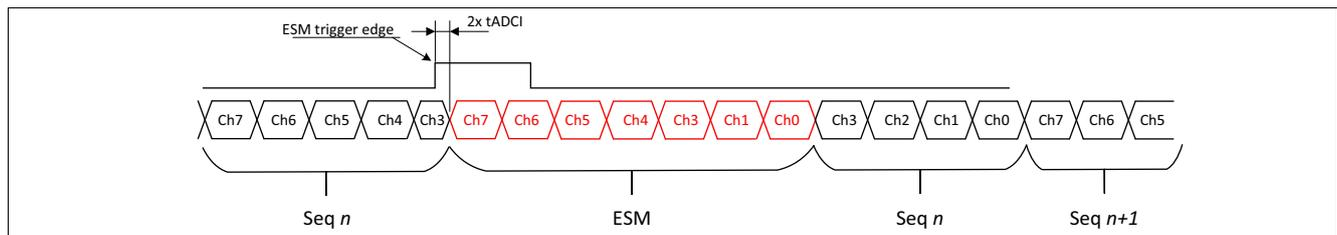

Figure 206 ADC1 ESM measurement within sequence example
- “Exceptional Sequence Measurement” (ESM), upon hardware event, the sequence programmed in CHx_ESM is inserted in the currently running sequence. The current measurement is aborted, then the ESM sequence will be executed, two tADC1 cycles after the trigger. After the ESM is finished the aborted measurement will be repeated and the sequence continues, see Figure 206. After the Exceptional Sequence Measurement is finished an interrupt can be requested. See SQ1_4 and following sequence registers.